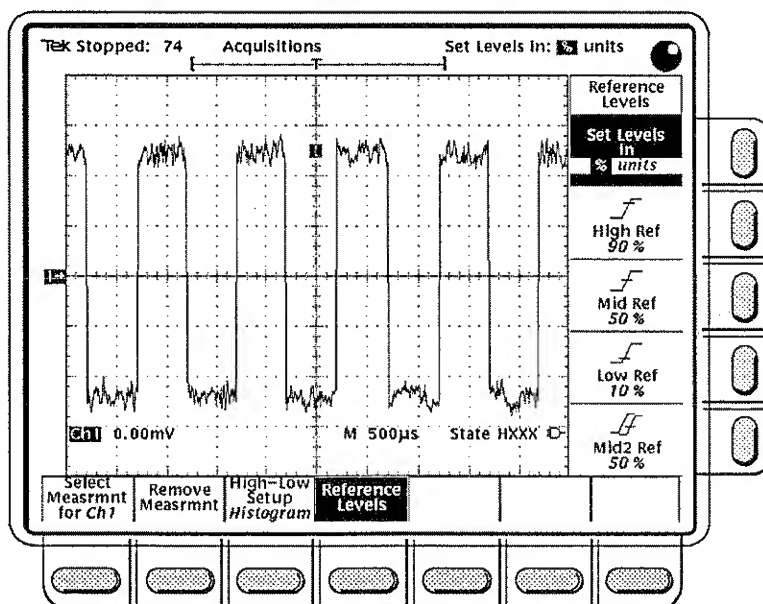

Figure 3-34: Measure Menu — Reference Levels
- ☐ **Step 1:** Press the **MEASURE** button to bring up the Measure menu (Figure 3-34).